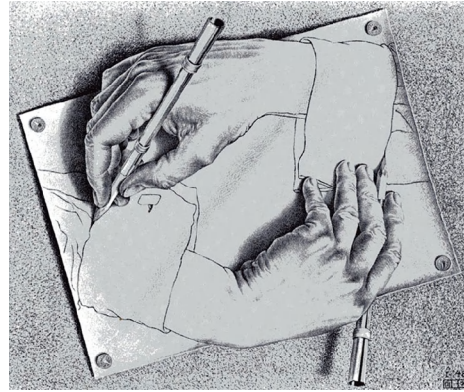

Fig 2.29: DO ... WHILE is another LOOP command
- Modify the circuit connection as per figure 2.29. Use **470 Ω** resistor.